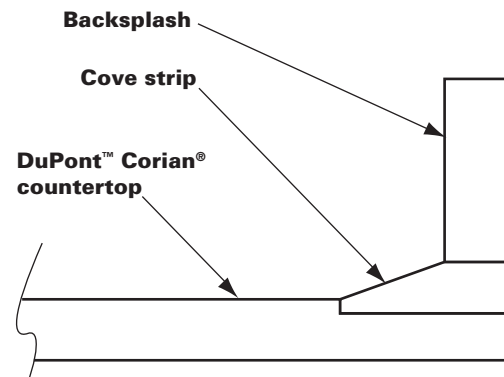

Figure C-1
6. Cove strip: Cut the beveled cove strip to length. At corners, miter-cut the strip and dry-fit. The countertop, cove strip and backsplash are shown in Figure C-1.
2. Backsplash: The end of one backsplash panel will need to be rabbeted as in Step 5 of Section C.1 on the previous page. See Figure C-1. Rip the backsplash panel oversized to allow for cleanup later. Then follow steps 6 through 9 in Section C.1.